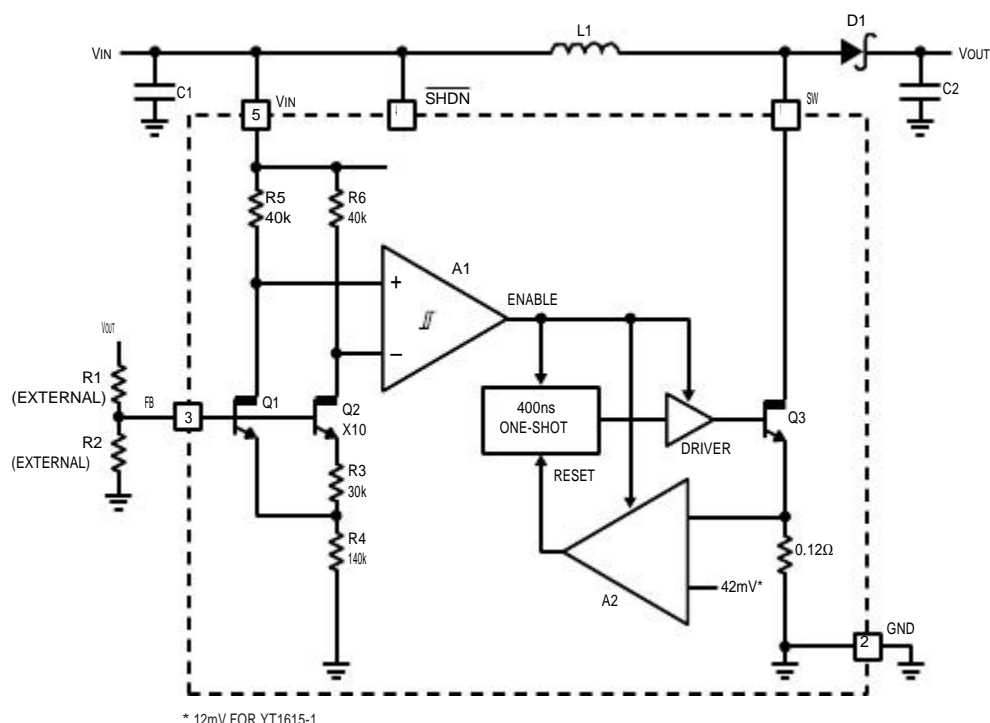

Figure 1. JTM1615 Block Diagram
**FB (Pin 3):** Feedback Pin. Set the output voltage by selecting values for R1 and R2 (see Figure 1):
The JTM1615 uses a constant off-time control scheme to provide high efficiencies over a wide range of output current. Operation can be best understood by referring to the block diagram in Figure 1. Q1 and Q2 along with R3 and R4 form a bandgap reference used to regulate the output voltage. When the voltage at the FB pin is slightly above 1.23V, comparator A1 disables most of the internal circuitry. Output current is then provided by capacitor C2, which slowly discharges until the voltage at the FB pin drops below the lower hysteresis point of A1 (typical hysteresis at the FB pin is 8mV). A1 then enables the internal circuitry, turns on power switch Q3, and the current in inductor L1 begins ramping up. Once the switch current reaches 350mA, comparator A2 resets the one-shot, which turns off Q3 for 400ns. L1 then delivers current to the output through diode D1 as the inductor current ramps down. Q3 turns on again and the inductor